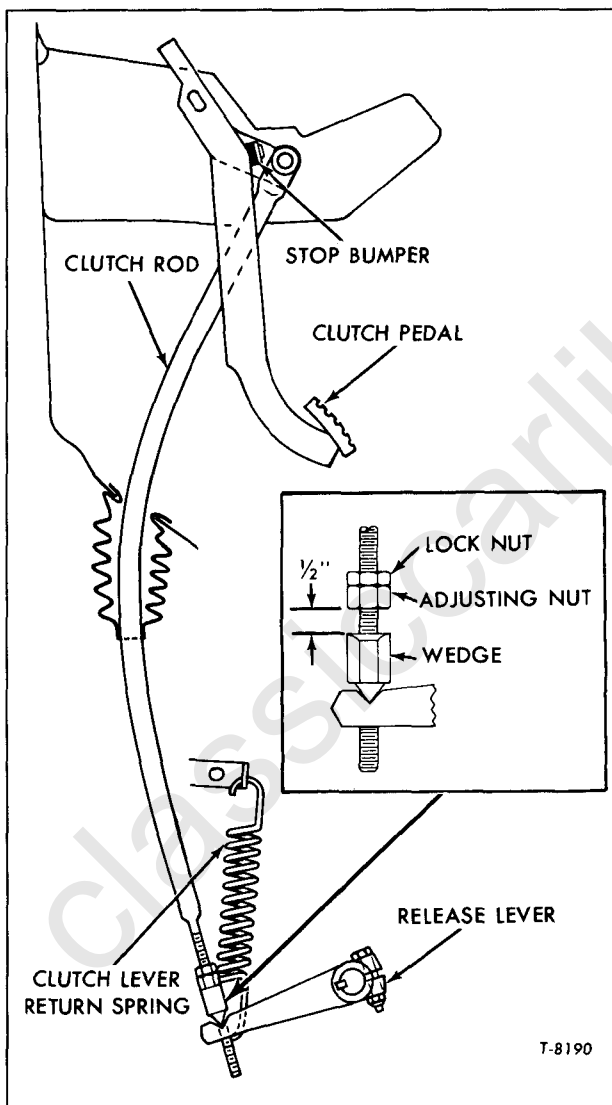

Figure 1—Clutch Controls (HV, JV70 and HM, JM80 with 478M Engine)
#### MODELS HV, JV70 AND HM, JM80 WITH 478M ENGINE (Refer to Fig. 1)
3. Referring to the Inset of figure 1, loosen lock nut. Adjust clearance between wedge and adjusting nut to  $\frac{1}{2}$ -inch. Then tighten lock nut so as to maintain the  $\frac{1}{2}$ -inch clearance between wedge and adjusting nut.